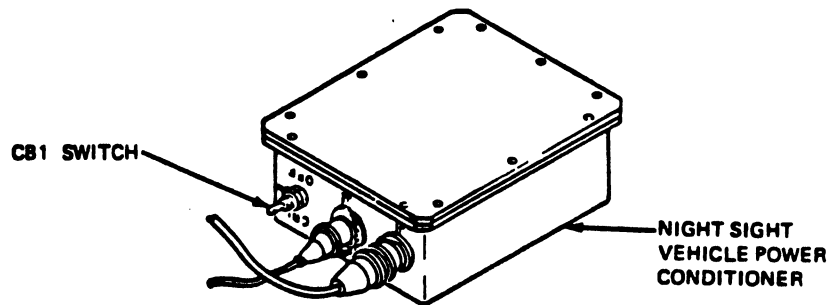

Fig 2-38. Setting CR1 switch.
Step 11. Set the night sight vehicle power conditioner CR1 switch to ON (fig 2-38).